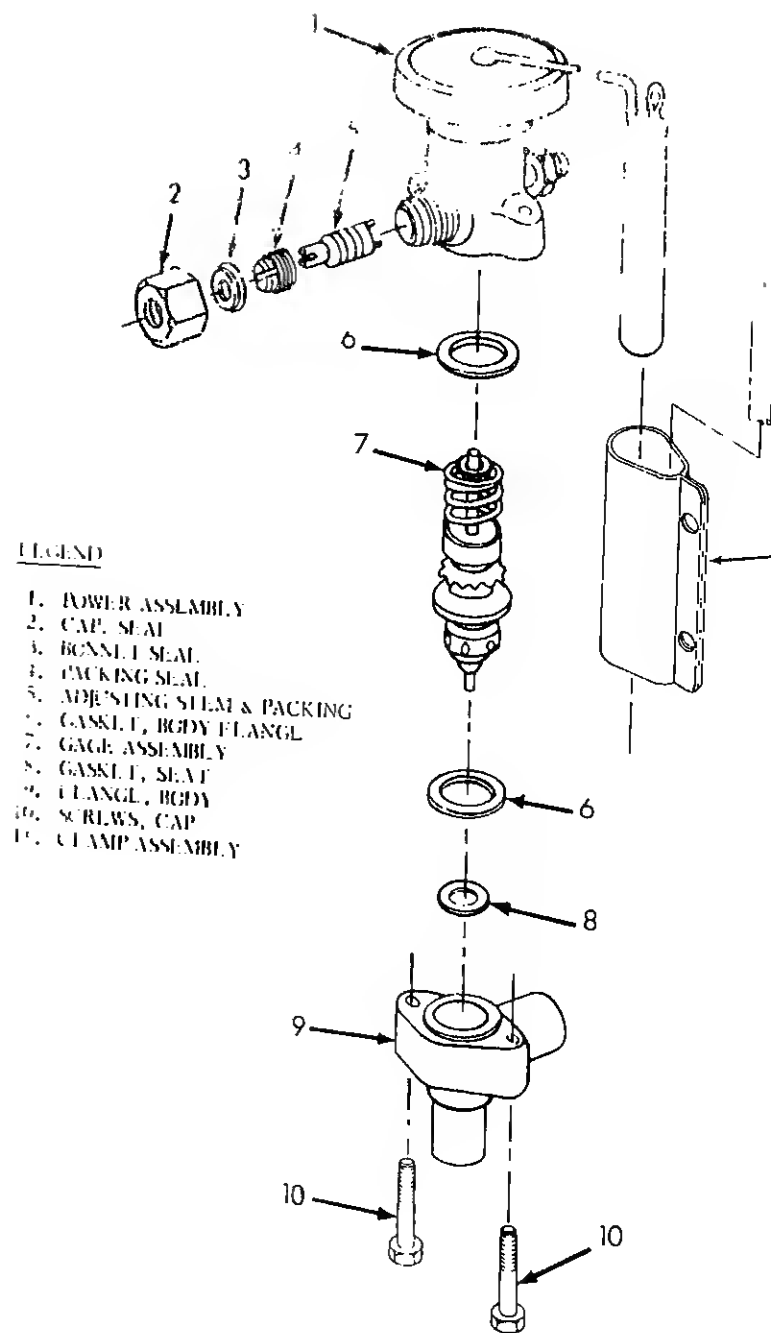

Figure 8-3. Typical Thermocouple Assembly
a. Disassemble the valve by removing the capscrews (10) that secure the power assembly to the valve body (9), and separate the two.
d. Install power assembly (1, figure 8-3) on the valve body, being careful to fit lugs on the cage assembly into the cavities in the body (9). Secure with two capscrews (10). Connect equalizer line, if applicable.